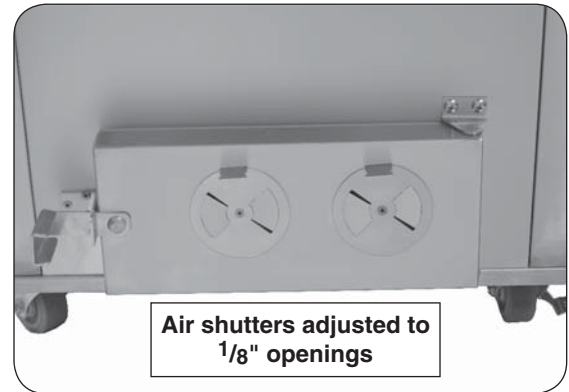

Fig. 11-1
8. Once the desired temperature is reached; adjust the two air shutters on the ash door to an approximate  $\frac{1}{8}$ " (see Fig. 11-1).